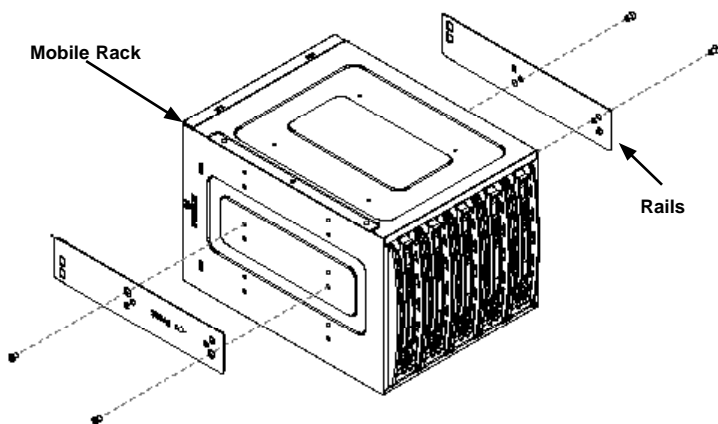

Figure 6-9. Add Rails to the Mobile Rack
4. Remove the six drive tray rails (Figure 6-9).